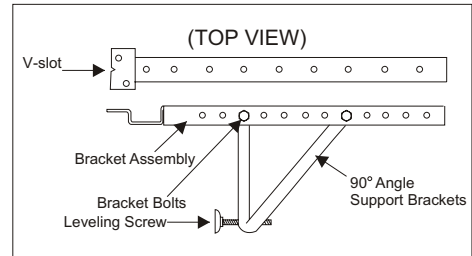
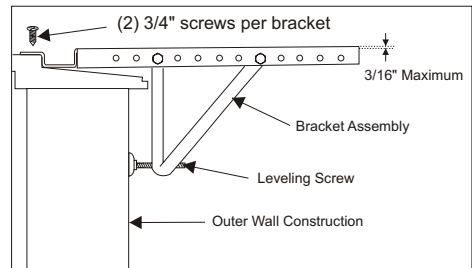
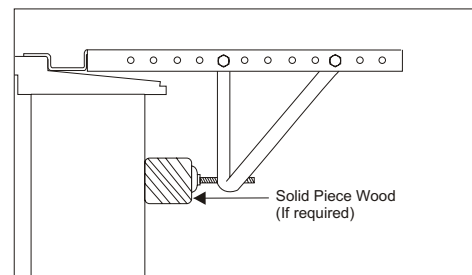

Fig. 5
Fig. 7
Fig. 8
A. Attach the **bracket assembly to 90° angle support brackets** (Fig. 5) using (2) **1 1/2" bolts** Two bolts per bracket. Secure with the (2) **1/4" lock washers** and (2) **1/4" nuts**. **DO NOT** immediately tighten these bolts as it may be necessary to adjust the depth of the **bracket assembly**, depending on the depth of your window sill. See (Fig. 7). Install the two **leveling screws** into the 90° support brackets. Test the bracket assembly in the window before cabinet installation. If the leveling screws are distanced too far away from the wall to provide stability, it may be necessary for you to fill this area with a solid piece of wood. See (Fig. 8).
C. For proper condensation run-off it will be necessary to adjust the angle/pitch of the window brackets. This is accomplished by adjusting the distance of the leveling screw on the outer wall. The maximum angle/pitch should not exceed more than 3/16". See (Fig. 7).
Use a solid piece of wood to provide stability. This will be required when sills are extra deep. See (Fig. 8).
C. Check to make sure that the cabinet is slanted slightly downward on the outside. If necessary, re-adjust support bracket as shown in (Fig. 7).